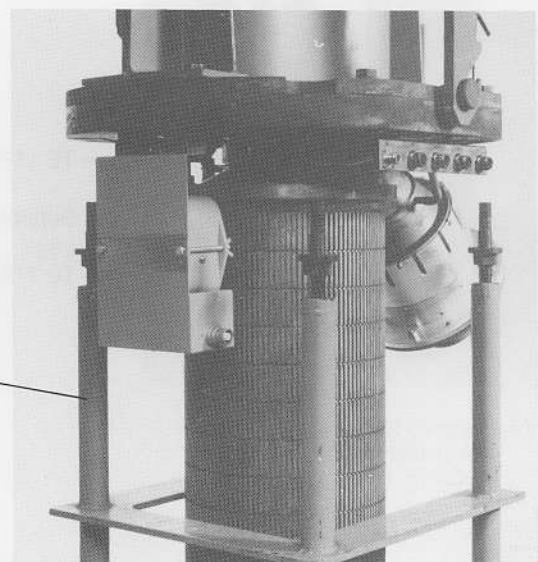

Fig. 16. Hoisting the Klystron out of its Support Frame (TE 1177)
- (b) Hoist the klystron vertically out of its support frame (TE 1176) (Fig. 16).